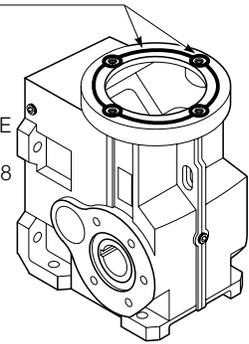

Figure 3
7. Apply liquid gasket material (Loctite 518, Rexnord Part Number #10093848) furnished to flange face of basic housing as illustrated in Figure 3. **Caution:** *This step must be followed to prevent leakage.*
- Apply liquid gasket material (Loctite 518, Rexnord Part Number #10093848) furnished to flange face of basic housing as illustrated in Figure 3. **Caution:** This step must be followed to prevent leakage.